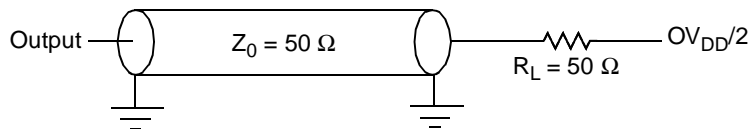

Figure 26. AC Test Load for the JTAG Interface
1. All outputs are measured from the midpoint voltage of the falling/rising edge of t_{CLK} to the midpoint of the signal in question. The output timings are measured at the pins. All output timings assume a purely resistive 50 Ω load (see Figure 26). Time-of-flight delays must be added for trace lengths, vias, and connectors in the system.
2. The symbols for timing specifications follow the pattern of $t_{\text{(first two letters of functional block)(signal)(state)(reference)(state)}}$ for inputs and $t_{\text{(first two letters of functional block)(reference)(state)(signal)(state)}}$ for outputs. For example, t_{JTDVXH} symbolizes JTAG device timing (JT) with respect to the time data input signals (D) reaching the valid state (V) relative to the t_{JTG} clock reference (K) going to the high (H) state or setup time. Also, t_{JTDVXH} symbolizes JTAG timing (JT) with respect to the time data input signals (D) went invalid (X) relative to the t_{JTG} clock reference (K) going to the high (H) state. In general, the clock reference symbol is based on three letters representing the clock of a particular function. For rise and fall times, the latter convention is used with the appropriate letter: R (rise) or F (fall).
Figure 26 provides the AC test load for TDO and the boundary-scan outputs of the MPC8347E.